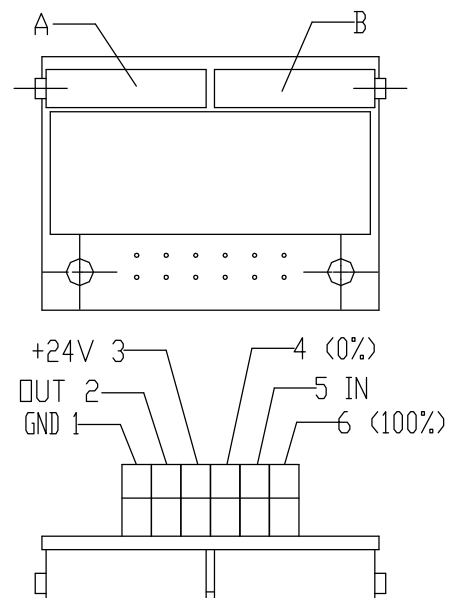

Fig.7
3.4.2 EPV – 3-wire version (Fig. 7)
- Adjust the resistive transmitter according to the previous chapter. The resistance is to be metered on the terminals 0%-100% (Fig. 7). The used transmitter resistance is 2000W or 100 W.
- Switch the converter's power supply on. Turn the adjusting trimmer A (Fig. 7) to adjust the output current signal rate measured on the terminals 81-82.
- Turn the adjusting trimmer B (Fig. 7) to adjust the output current signal rate measured on the terminals 81-82.